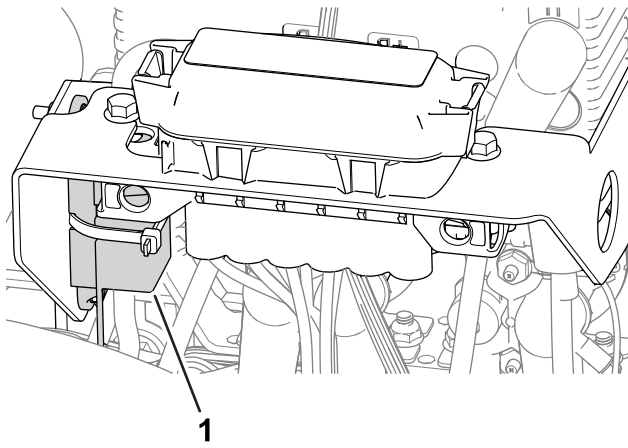

Figure 53
- The fuse for the left wheel motor (60 A) is located under the cover on the left side of the machine, near the reel-drive-circuit fuses (Figure 53).